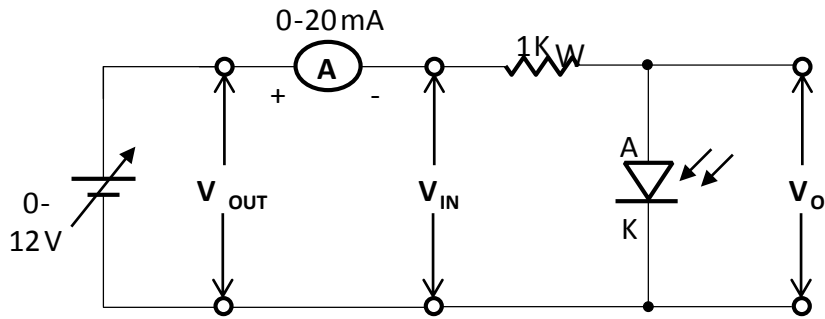

Fig.2a. Forward characteristics
- 3) Connect Ammeter and voltmeter as shown in Fig 2a.